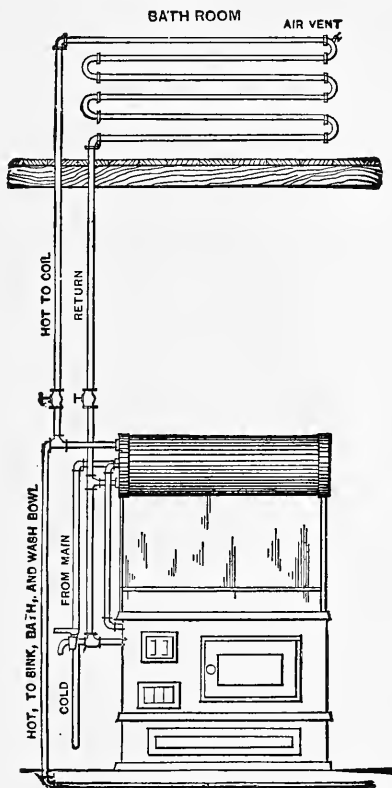
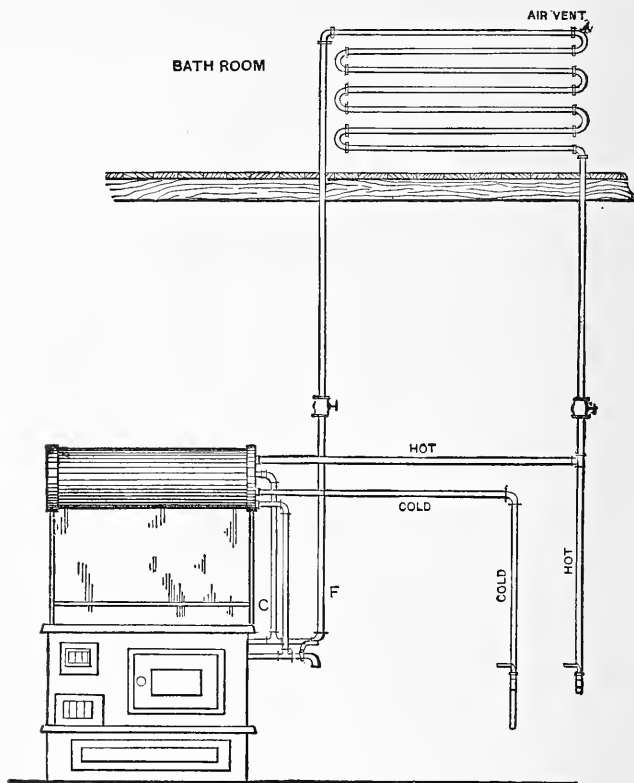

Fig. 1.—First Plan.
Fig. 2.—Second Plan.
from time to time. I have another of these ranges to deliver now in a house where the bathroom cannot be heated from the furnace in the cellar. I therefore thought I could utilize the hot water, which generally runs to waste, in heating this room by means of a coil of pipe supplied from and returning to the boiler and water back of the range. Inclosed you will find a rough sketch, Fig. 1, showing the relative positions of the range, sink, bathtub, &c., also my idea of the proper way of connecting the coil with the boiler—that is, entirely independent from the supply of hot water leading to the other fixtures. The bath-
room is small—about 6 feet 6 inches by 7 feet, with the ceiling 8 feet high. The kitchen is 12 x 14 feet, with 9-foot ceiling. The plumber who is fitting up the bathroom has submitted a plan which I cannot understand (it is shown in the sketch, Fig. 2), and, being almost a novice in this kind of work, I have concluded to refer the matter and the following questions to you, knowing that you are always ready to give assistance when called upon in matters of this kind :
*Answer.*—Figs. 1 and 2 are copies of the sketches inclosed by our correspondent. In reply to his query, we would say: 1. It is quite
practicable to heat a small room from the water back and boiler of a range, and several instances exist where this source of heat is used with satisfaction. 2. The arrangement of the pipes connecting heating coil with water back and boiler of range is correct, as shown in Fig. 1. Here the circulation between the back and boiler is fully maintained and is direct, while the circulation between the boiler and heating coil or radiator is also secured, the descending or cooler column—that is, the return water from the heating coil—being arranged to flow in the same direction as the same column from the boiler to the back. In Fig. 2 the flow pipe, or ascending column, F, is taken directly from the water back to the heating coil, on the horizontal part of which pipe is a branch called a circulating pipe, C, to boiler. When starting the fire, the circulation through pipe F to heating coil will be more rapid than through C to boiler. The water in the boiler will become heated by the return water from heating coil, as well as the partial circulation through pipe C. As the temperature of the water in the boiler increases, the circulation through the heating coil will decrease, and if the temperature of the water in the boiler should become equal to the temperature of the water in the coil, which is not improbable, the circulation in the heating coil will cease. If a valve was placed on the circulating pipe C and closed when the coil was used the circulation would be continuous and the water in the boiler would be slowly heated by the return water from the coil. When hot water is drawn off for domestic purposes, if the pipes are arranged as shown in Fig. 2, the temperature of the heating coil will be immediately reduced, as the hot water in the coil is as liable to be taken off as that in the boiler, whereas in Fig. 1 the liability to withdraw the hot water from the coil does not exist, and the incoming cold water only retards the supply of heat to the coil. The difference between the two plans may be thus summarized: In Fig. 1 the heating of the domestic water supply in the boiler is not interfered with, and the circulation through the heating coil is not liable to be reduced or to cease; whereas in Fig. 2 the heating of the water in the boiler is liable to stop the circulation in the heating coil, and the withdrawal of hot water for domestic purposes and the incoming cold water will tend to cause irregular circulation between back and coil, and back and boiler. Replying to our correspondent's third question, no changes are necessary in Fig. 1 plan to make it work. For the radiating surface a return bend coil may be used of  $1\frac{1}{4}$ -inch pipe. The length of coil may be about